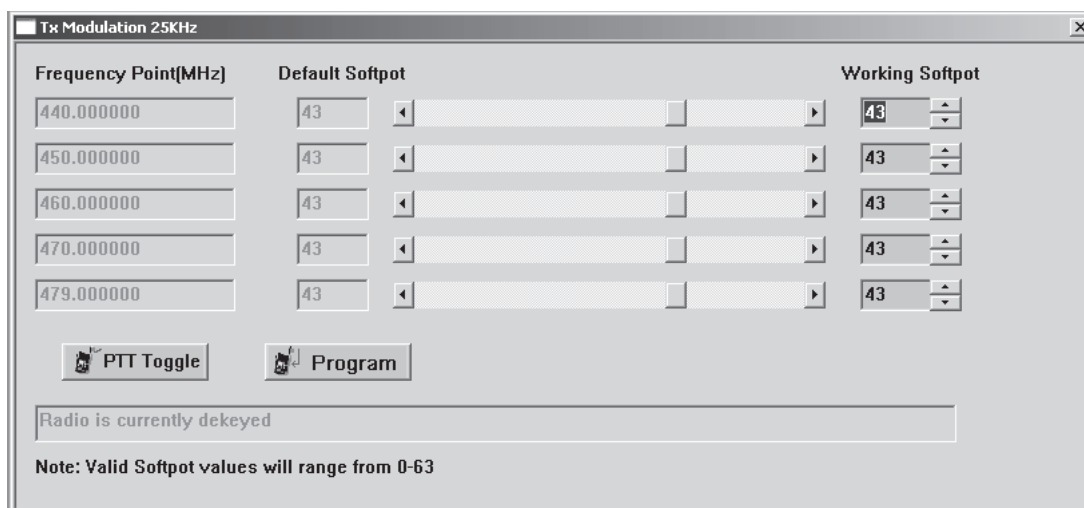

Figure 5-6. Tx Modulation 25 kHz Window
1. Under the **Alignment** menu, select **Tx Modulation**, then select **Mod. 25 kHz** (Figure 5-6. Tx Modulation 25 kHz Window).